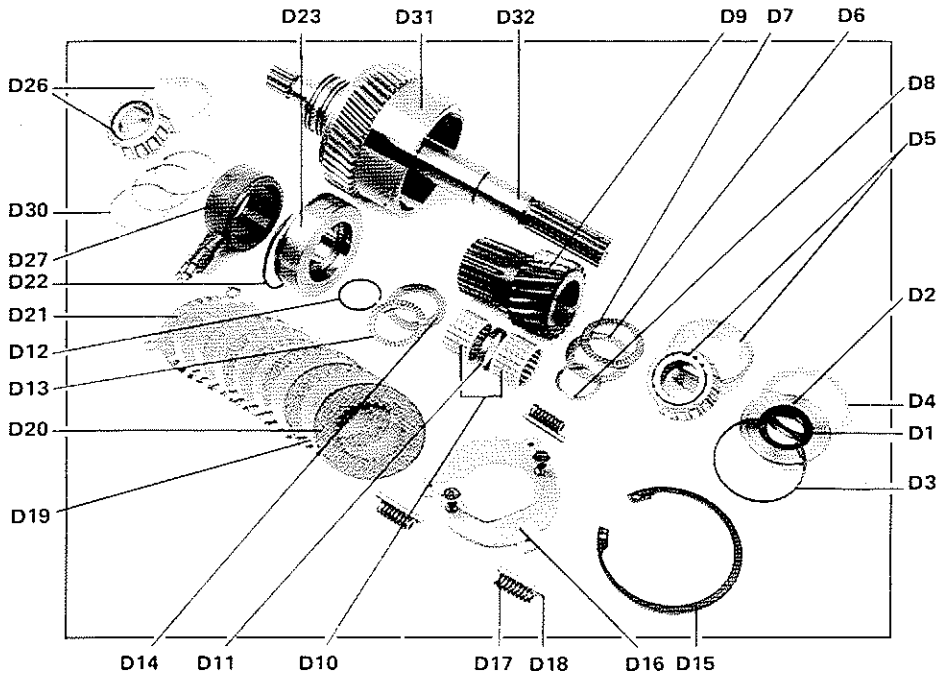

Fig. 15
1. Press the bearing outer cup firmly into position and measure between the face of the gearcase and the top of the bearing outer as shown in Fig. 15.